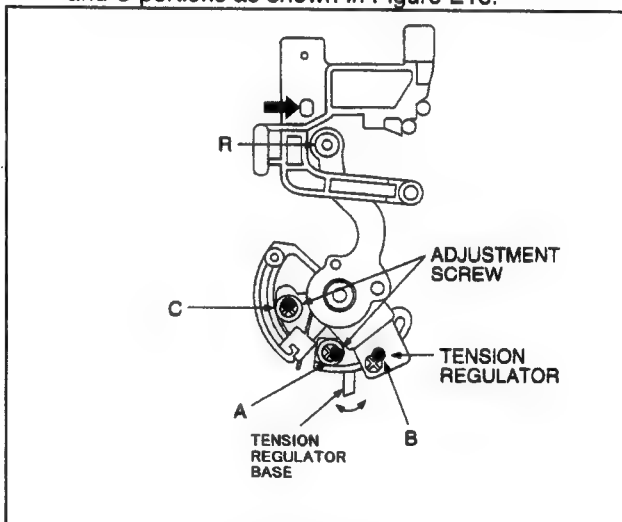

Fig. E18
4. When pressing the R portion of the Tension Post in arrow direction by Dial Tension Gauge (VFK1188) until the voltage becomes -0.92V (REV Position) as shown in Figure E18, confirm the tension is in the specification  $18 \pm 2\text{gf}$ .
6. Grew the screw A, B and C after Tension Arm Adjustment. The grew quantity at B portion is half of A and C portions as shown in Figure E18.